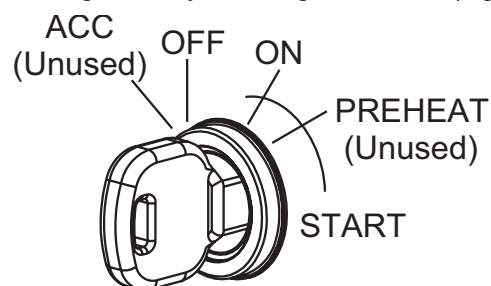

Figure 17. Ignition Switch And Key
2. Insert the ignition key into the ignition switch (Figure 17).